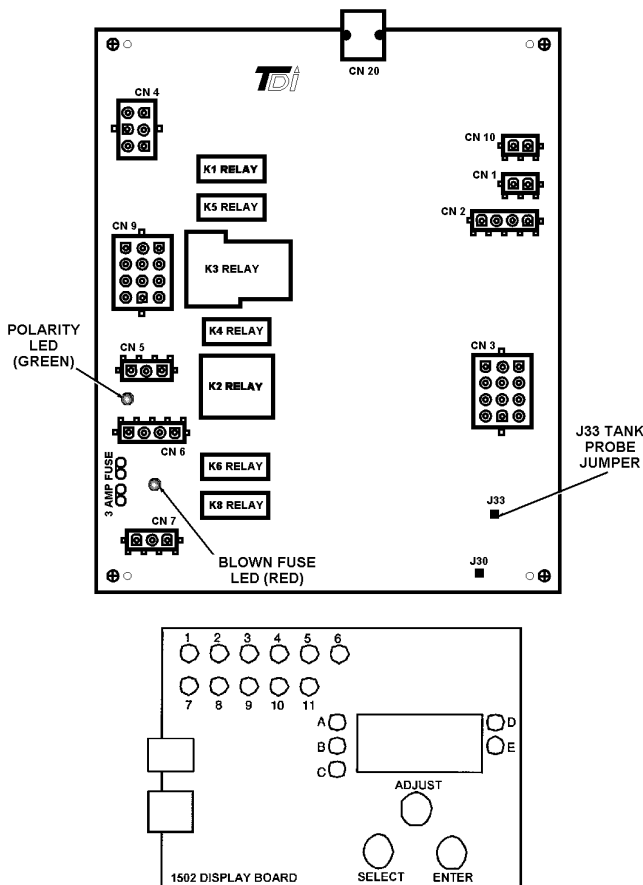
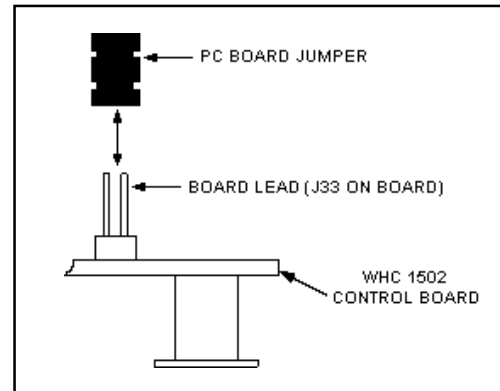

FIGURE 21. DIA-SCAN II CONTROL AND DISPLAY BOARD
FIGURE 22.
NOTE: PC board jumpers are used on the WHC 1502 (see figure 21) to control the mode of temperature regulation (tank probe or 24 V control) and number of ignitions trials (Standard VS. CSD-1 Models). The jumper is a small rectangular plastic piece which fits over two control board leads (see figure 22). It is used on LW models to allow for the use of the tank probe provided with the unit. If the installer wishes to use an alternate
24-Volt method of temperature control, the J33 jumper must be removed and the red/green wires in the junction box at the rear of the unit must be used. (see figure 21 and 22). Standard LB models will not have a jumper across the J33 board leads. Wires are provided in the junction box for a 24-Volt method of temperature control.
1. Press the SELECT push-button on the display board until both the Set-Pt LED (LED D, see figure 21) and Outlet Water Temperature LED (LED B, see figure 21) are illuminated.
1. Press the SELECT push-button on the display board until the Set-Pt Diff LED (LED E, see figure 21) is illuminated.